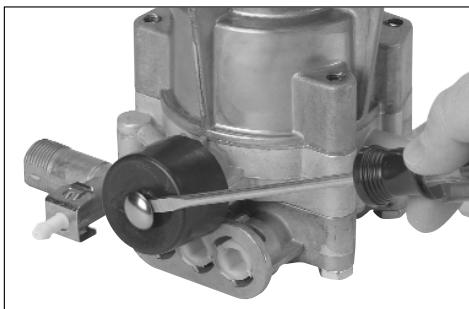

figure 2
1. Remove fastening cap and deflector cap. (figure 2)